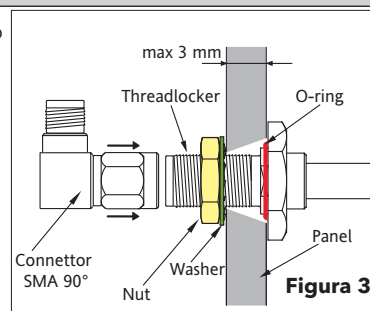

Figure 3
- Tighten the nut to firmly clamp the cable (see Figure 3)
- Rub some more thread locker onto the connector as shown in Figure 3